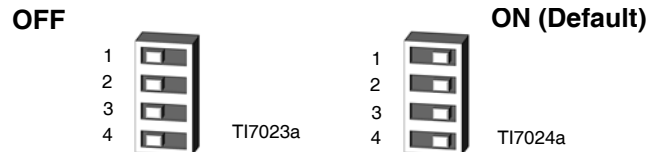

FIG. 10 DIP Switch (SW2) Settings
2. Set the four DIP switches to the desired positions. See FIG. 10, page 29, and TABLE 5, page 30.